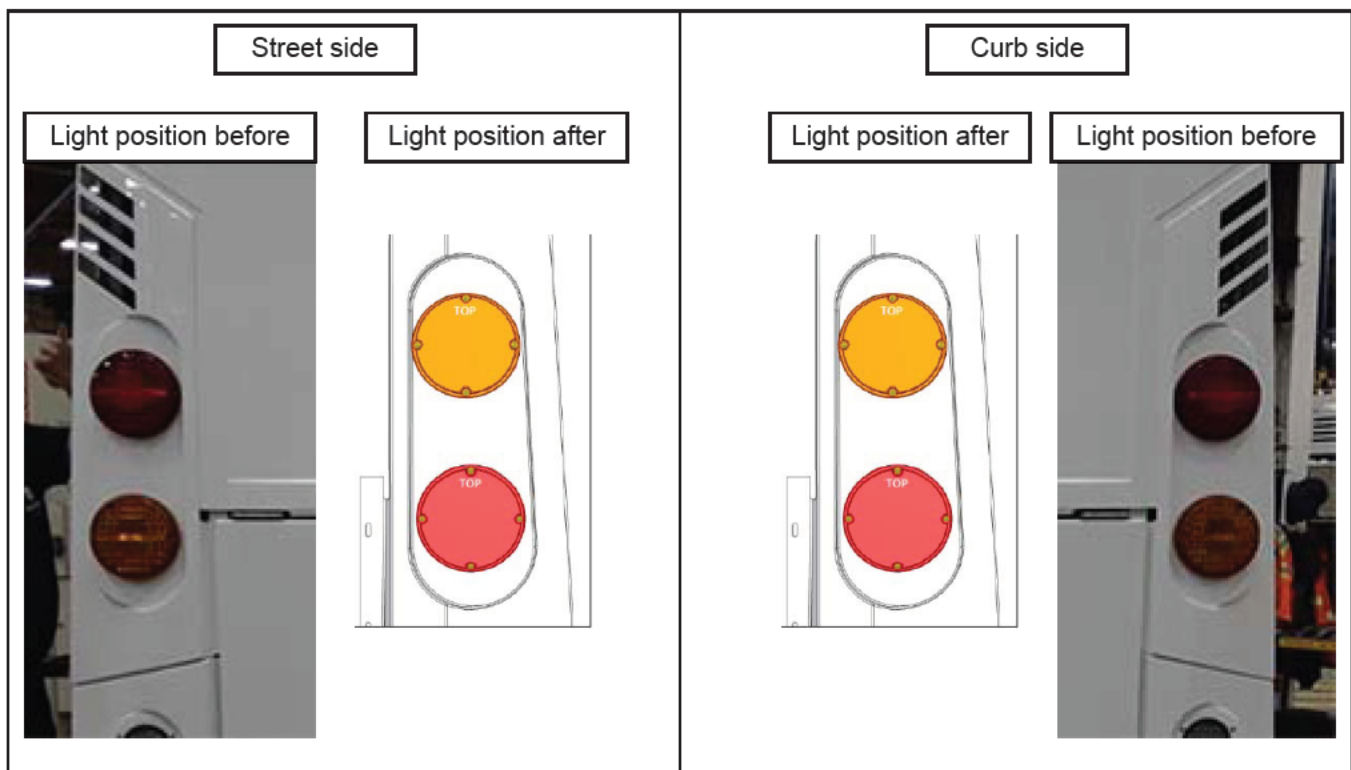

Figure 3 - Stop Lamp New Position
- 1.5. Install the stop lamp at the bottom position and the other lamp at the top position on the removed curb side stop and flasher light panel. See Figure 3.
- 1.7. Install the stop lamp at the bottom position and the other lamp at the top position on the removed street side stop and flasher light panel. See Figure 3.
Position the TOP mark at the top of both lamps when fixing the lamps to the corner plates. See Figure 3.